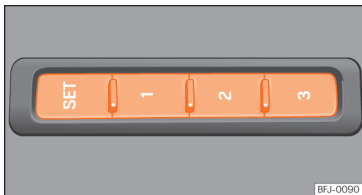

Fig. 101 On the outer side of the driver's seat: memory buttons.
- Press **SET** for longer than 1 second >>> **Fig. 101**.